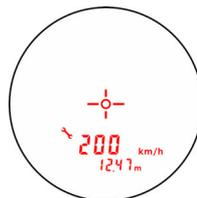

Figure 37
1. Press the  button repeatedly until the display looks similar to Figure 37. The model number appears in the upper display and the firmware version number appears in the lower display. In this example, the model number is "200" and the firmware version number is "12.47".
Figure 37 uses firmware version 12.47 for the purpose of an example. Your TruSpeed Sxb may include a different firmware version number.